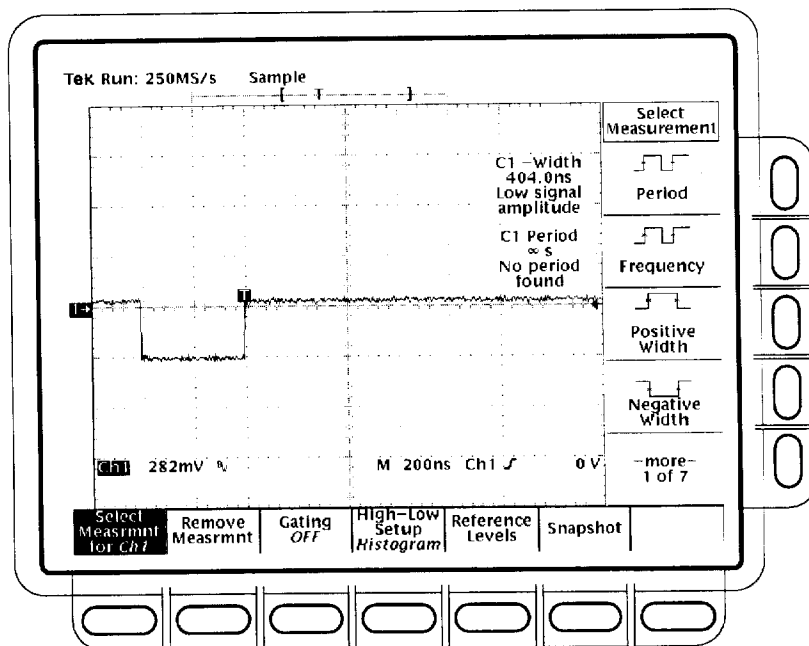

Figure 1–39: Sync duty cycle test: one-div neg pulse waveform
- Turn the pulse generator **PERIOD** variable control to adjust the period until the oscilloscope **CH1 Period** measurement reads **21.000 $\mu$ s  $\pm$ 25/+50 ns**. See Figure 1–40. Read note shown below.